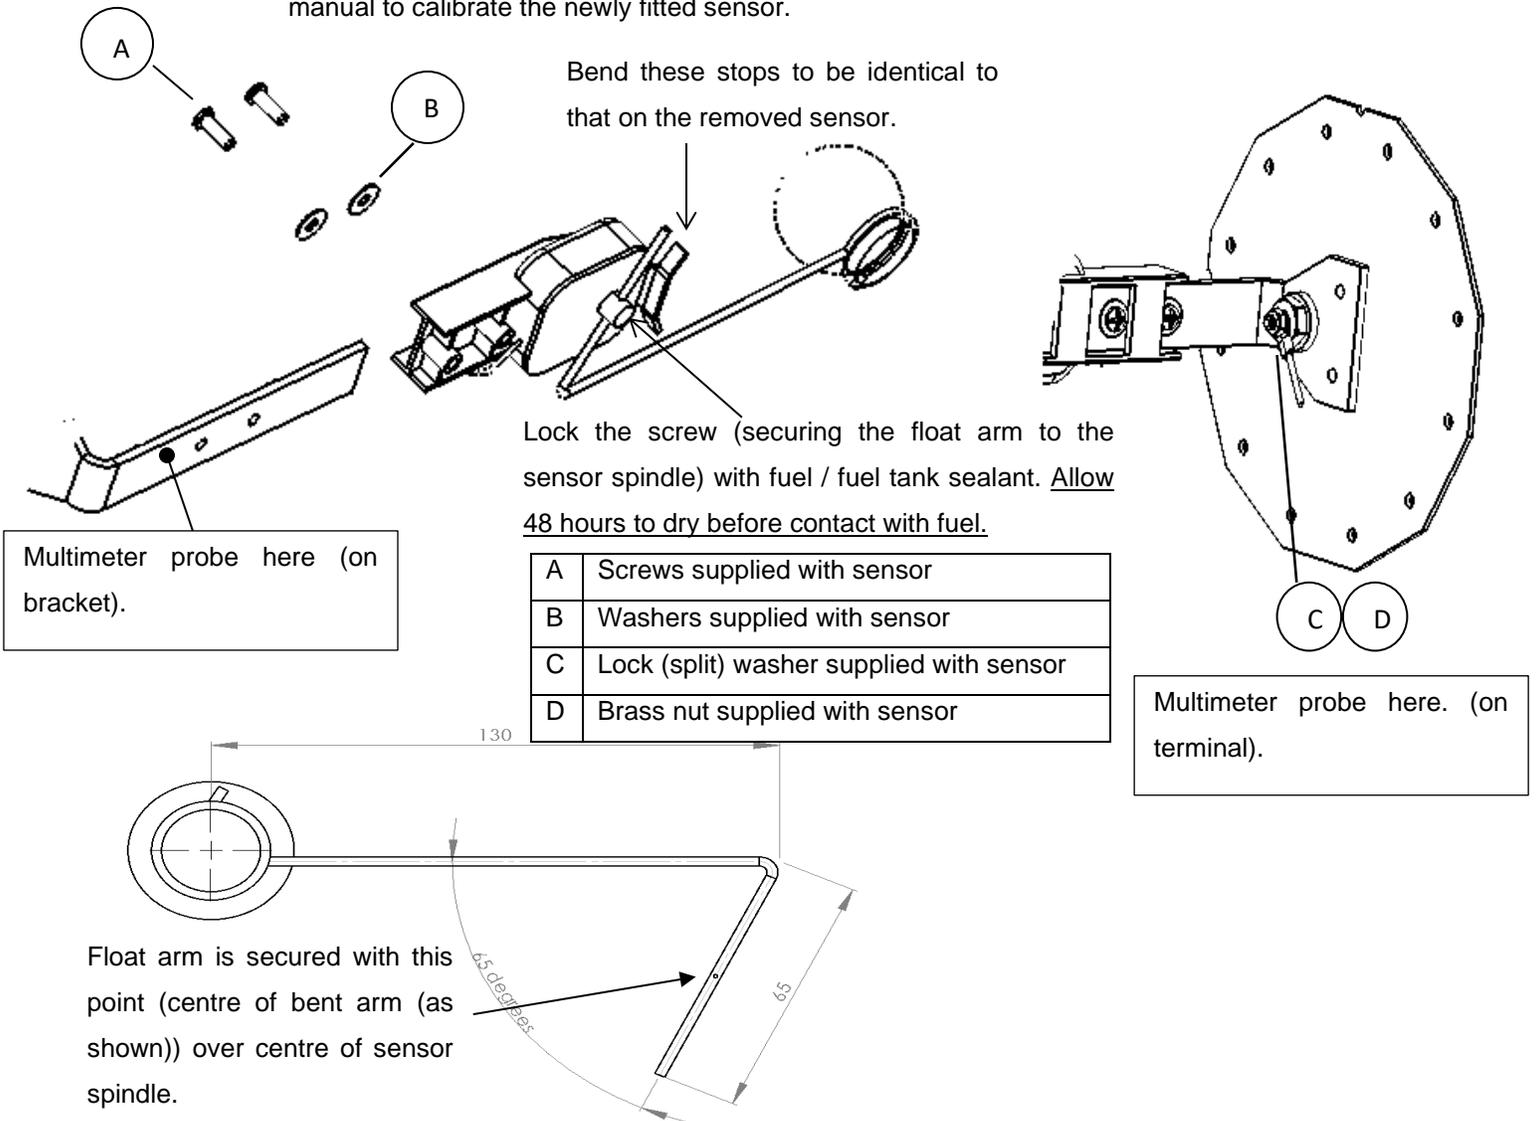

Figure 65: Fuel level sender assembly sensor replacement.
- Observe correct washer placement (refer to Figure 65).
- The sensor is fitted to the bracket with the spindle pointing away (in opposite direction) from the 90 degree bend / plate / part of the bracket attached to the hexagonal tank cover / sender assembly plate, i.e. spindle will face to rear when level sender assembly is installed in fuel tank. See Figure 65.
- (a) The float arm must be fitted to the new sensor with the same point (centre of bent part of arm) on the arm (as was over the centre of the spindle of the removed sensor) over the centre of the sensor spindle (refer to Figure 65). Use the marks made (during disassembly) on the float arm to assist in positioning the float arm before securing it to the sensor spindle.
- (b) Bend the float arm stops (refer to Figure 65) on the replacement sensor to be identical to that on the sensor which was removed.
- Wind the signal wire (1) tightly and securely around the bracket (2) and sensor (3) as shown below, without damaging or distorting / stretching it unnecessarily. Route the signal wire as shown and tie wrap (4) the bundle as shown. Cut the excess tie wrap strap off.
- Use a multimeter set to measure resistance (set to the 200 Ω range setting, if available or higher) to measure the range of the sensor, with the float arm first flush against one stop and then rotated to lie flush against the other stop (refer to Figure 65). The range measured should be between $> 0 \Omega$ and $< 200 \Omega$ (approximately 8 Ω to 192 Ω). Measuring an open circuit with the float arm flush against any one of the stops indicates that the sensor wiper has moved of the sensor board pick-up and indicates that the stops are not correctly bent. Bend the stops to exactly match those of the sensor previously removed!